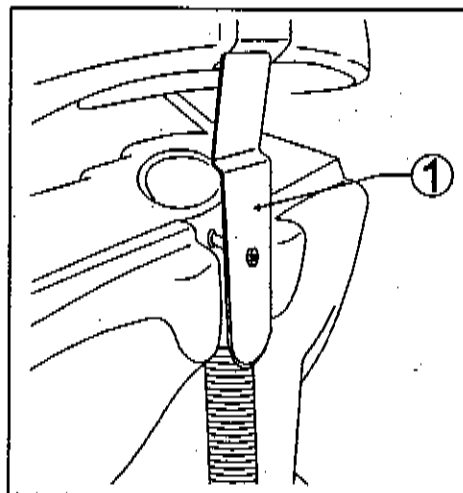

Fig. 5
- 3) unhook the recovery tank (fig. 2, ref. 2) from the solution tank (fig. 2, ref. 7) acting on the blocking hook (fig. 5, ref. 1), placed on front of the machine;
- 7) insert back the tank unit in its work position and hook it to the solution tank by means of the fixing hook (fig. 5, ref. 1);